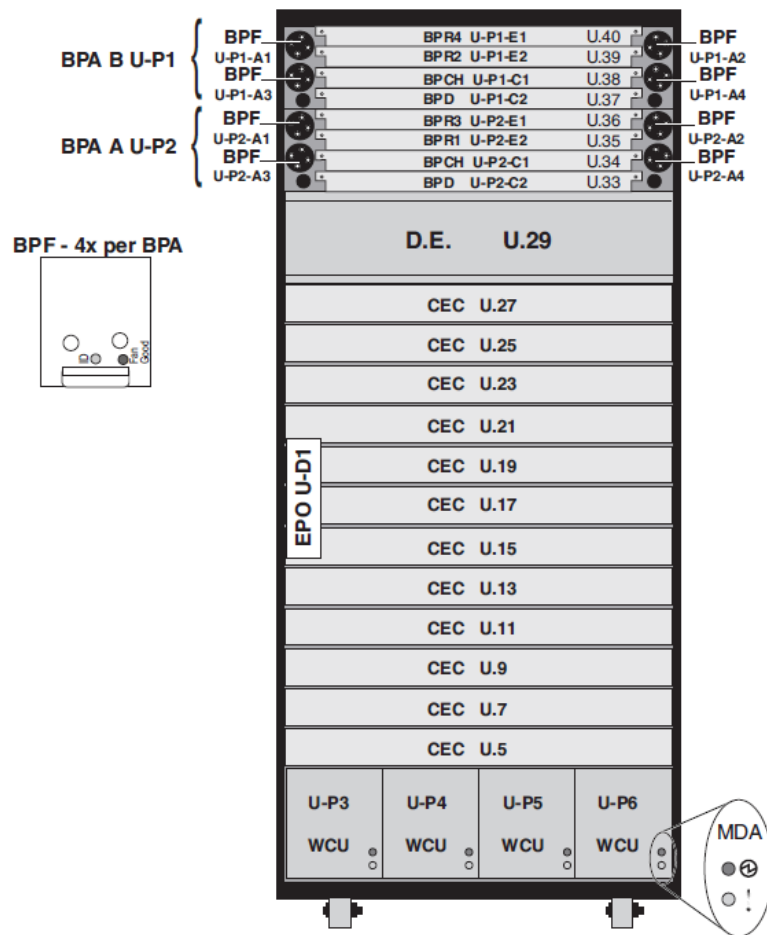

Figure 6 Front View of Frame
- c) Verify that the WCU MDA ID (!) LED is flashing for the WCU MDA with the Power Cable that requires service (see Figure 6).